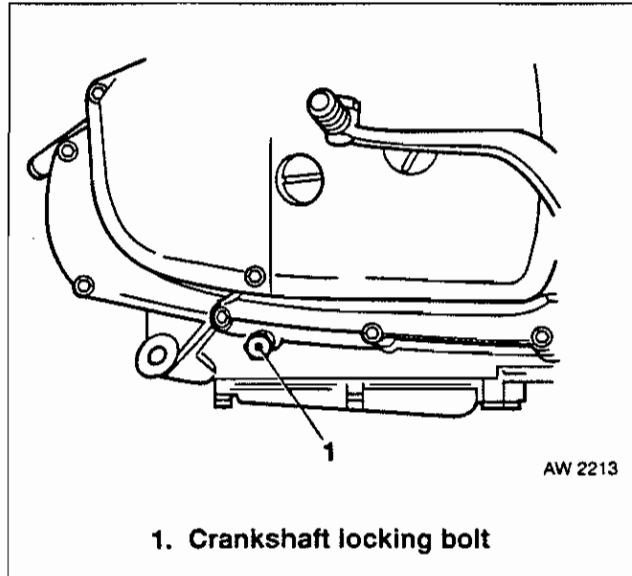

Fig 2.21 Crankshaft Locking
h. **Timing Pulley Alignment** – If belt only is being replaced ensure crankshaft is locked to TDC (Fig 2.21 refers).